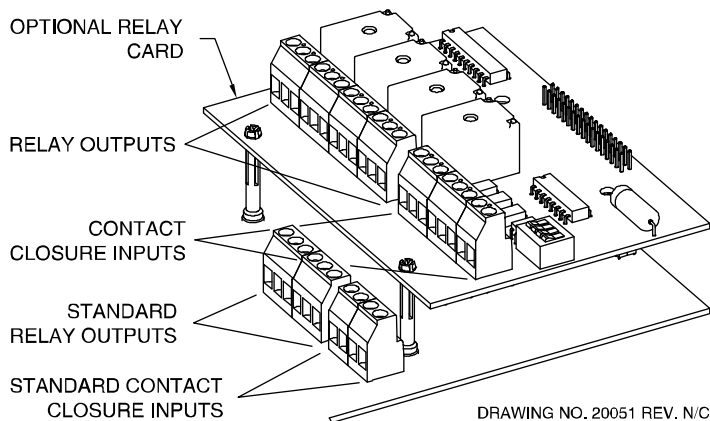

Figure 3-9 - Relay Output/Contact Closure Input Layout
The standard LC2000 includes two (2) dry contact closure inputs and two (2) relay contact closure outputs as illustrated in Figure 3-9 below. Also shown is an optional 4 Input/4 Relay Output Card. An optional 8 Input/8 Relay Output Card or 16 Relay Output Card are also available.